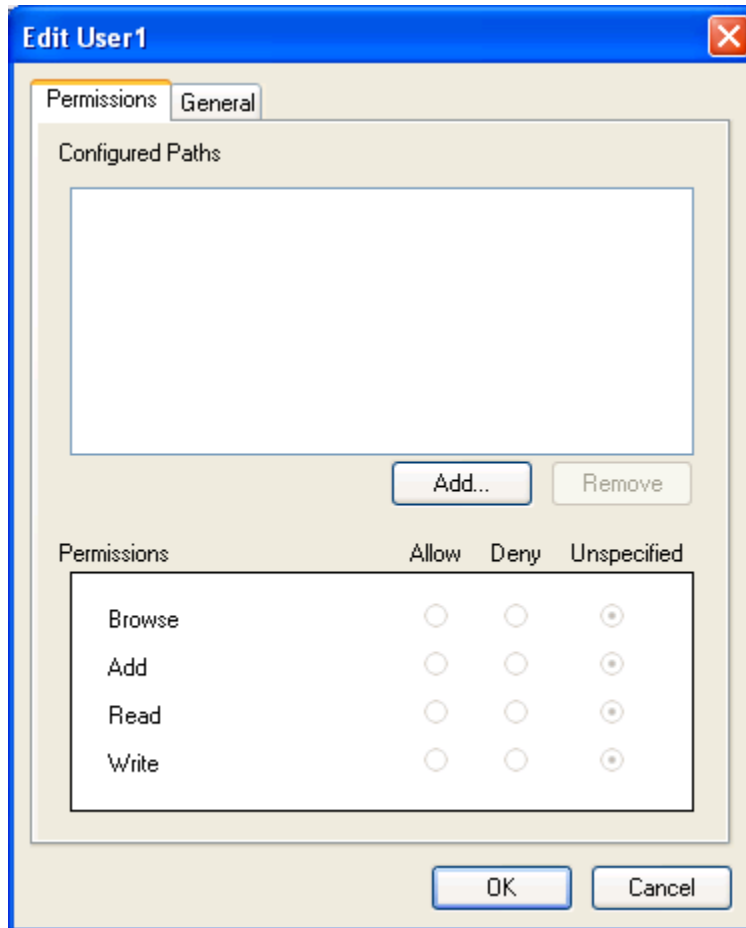

Figure 83 - Edit <Username> Window (Permissions Tab)
6. The **Edit <Username>** window (Figure 83) appears. Follow the instructions in the **Edit User** section for adding permissions.
2. The **Edit <Username>** window (Figure 83) appears.